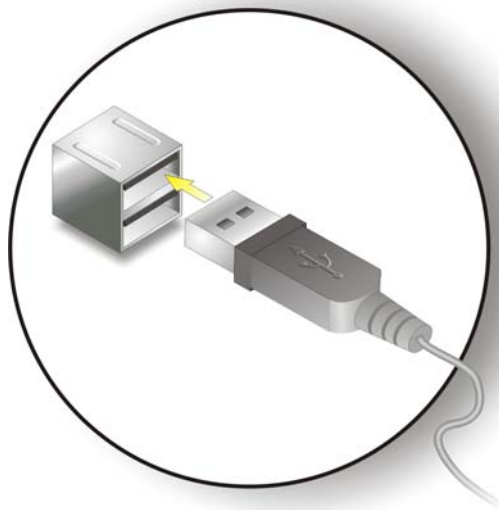

Figure 3-19: USB Device Connection
Step 2: **Align the connectors.** Align the USB device connector with one of the connectors on the bottom panel. See **Figure 3-19**.